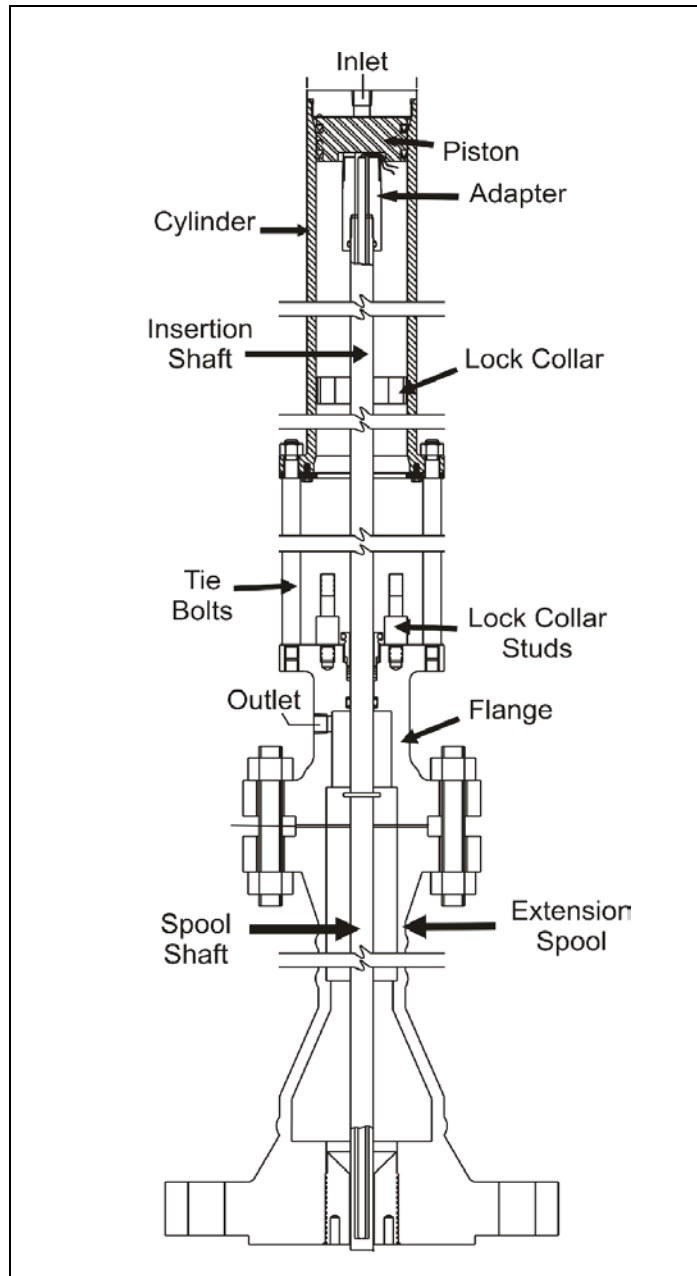

Figure 1
2.2.2 Connect the flange to the extension spool, inserting the insertion shaft into the lower spool shaft (see Figure 1).
2.2.5 Position the tie bolts on the flange (see Figure 1).